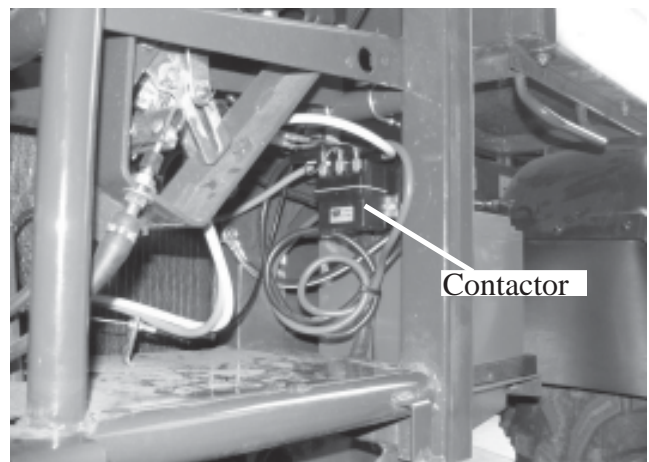

Figure 13
5. Fasten the yellow, blue, black and red power cables to the contactor, Figure 13. Mount the contactor to the contactor bracket with the fasteners supplied in the winch kit.